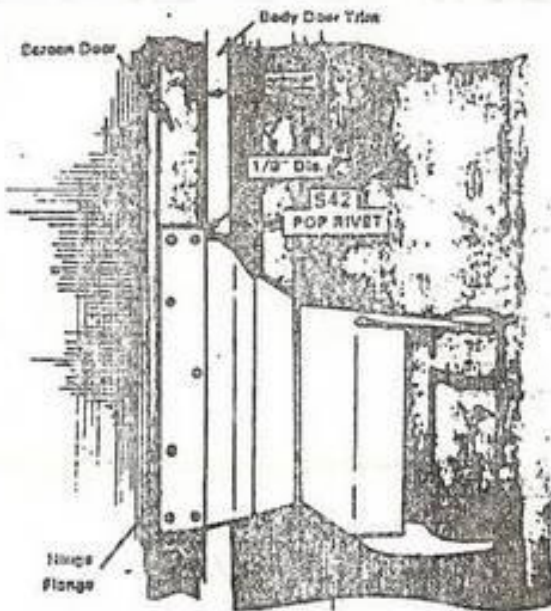

Figure 10
- 11 Place screen door into frame at top and hinge side of screen door. Swing hinges against screen door. Dand hinges to fit before drilling for rivets. Hinge flange must fit screen door without any force or strain. (See Figure 10). With hinges flush against screen door, drill only 2 holes 1/8 inch diameter in screen door. Pop rivet hinge with #42 rivets. Open end close screen door to check for clearance. Drill remainder of holes and pop rivet.